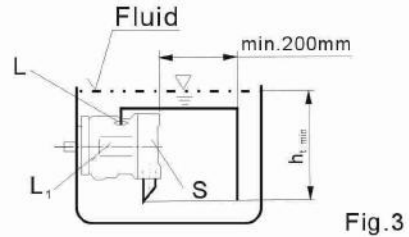

Fig. 3
- a) If the minimum fluid level is above the top of the pump, port "L₁" closed, "L" and "S" should remain open, L piped and recommendation S piped (see Fig. 3)